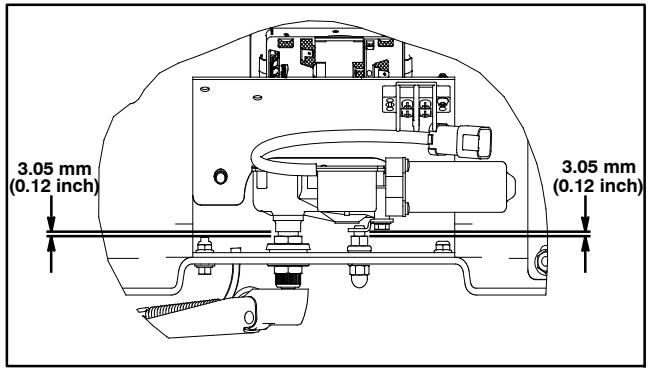

Figure 39
1. Locate the nuts on the studs at the dimensions shown before assembling the wiper motor into the console (Fig. 39).